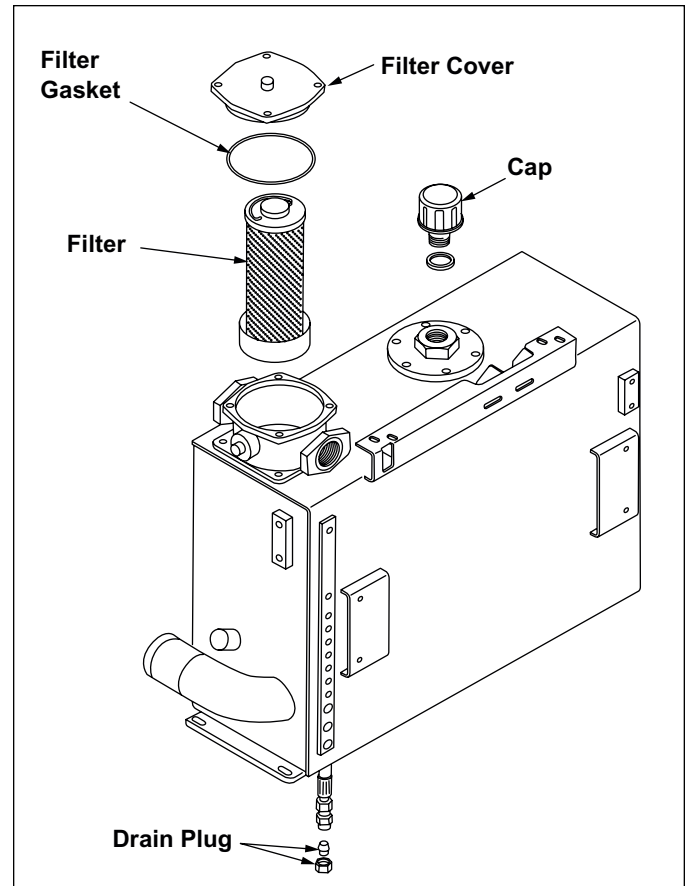

Figure 4-15. Hydraulic Oil Tank
5. Open the drain plug (Figure 4-15) and drain oil into a suitable container. Re-install drain plug and tighten securely.
6. Remove four bolts and filter cover (Figure 4-15). Remove and discard old filter. Put clean hydraulic fluid on the filter gasket and install gasket and new filter into reservoir.